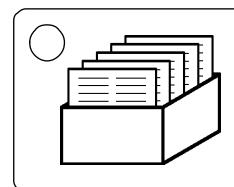

Figure 14-1. Job-Management Icon Button
1. Press the job-management icon button (Figure 14-1).